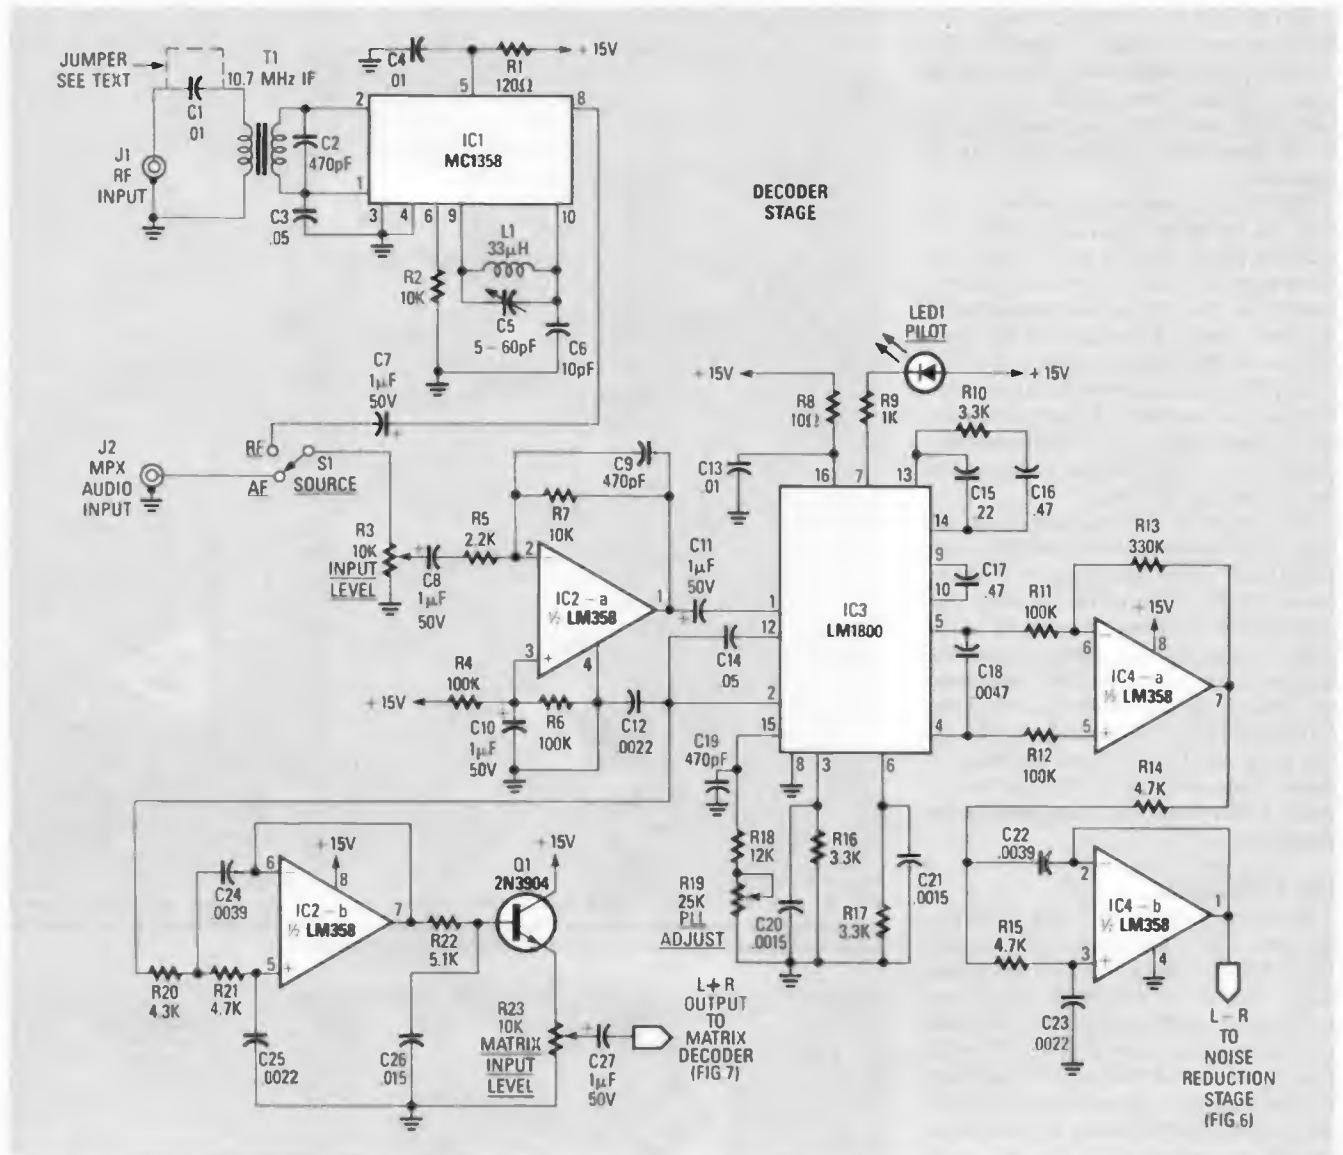

FIG. 3—THE DECODER STAGE converts the multiplexed audio signal into L + R and L - R signals.
Let's start with the decoder section (shown in Fig. 3). It centers around IC1, a
Next comes the expander stage: this is where we would use a dbx decoder if we could get one (see sidebar). At the collector of Q2 is a 75- $\mu$ s de-emphasis network (R27 and C29) that functions just like the network associated with Q1 (in Fig. 3). Note that Q2 feeds both Q3 and IC5-a, a -12 db per octave highpass filter. The output of that filter drives the rectifier input of IC6, an NE570.
Referring back to Fig. 3, the L + R signal from IC3 is fed to a 12-kHz lowpass filter, IC2-b, with a -12 dB per octave slope. That cutoff frequency was chosen in a somewhat arbitrary manner. We wanted to remove as much of the 15.734-kHz pilot signal from the output of the decoder as possible, while preserving as much of the desired high-frequency audio as possible. So we settled on 12 kHz as a good compromise.
**Part 2** IN THE FIRST PART OF this article we showed the complete set of schematic diagrams (in Fig. 3–Fig. 6) while we discussed the decoder's theory of operation. However, due to a printing error, a line connecting R13, R14, and pin 7 of IC4 was deleted from Fig. 3, the decoder stage schematic. After you go back to your January issue and draw the line in, you'll be ready to start building. But before purchasing any parts, read the section on interfacing below; you may not need the board-mounted demodulator and its associated components, depending on how you interface the decoder with your TV or VCR.